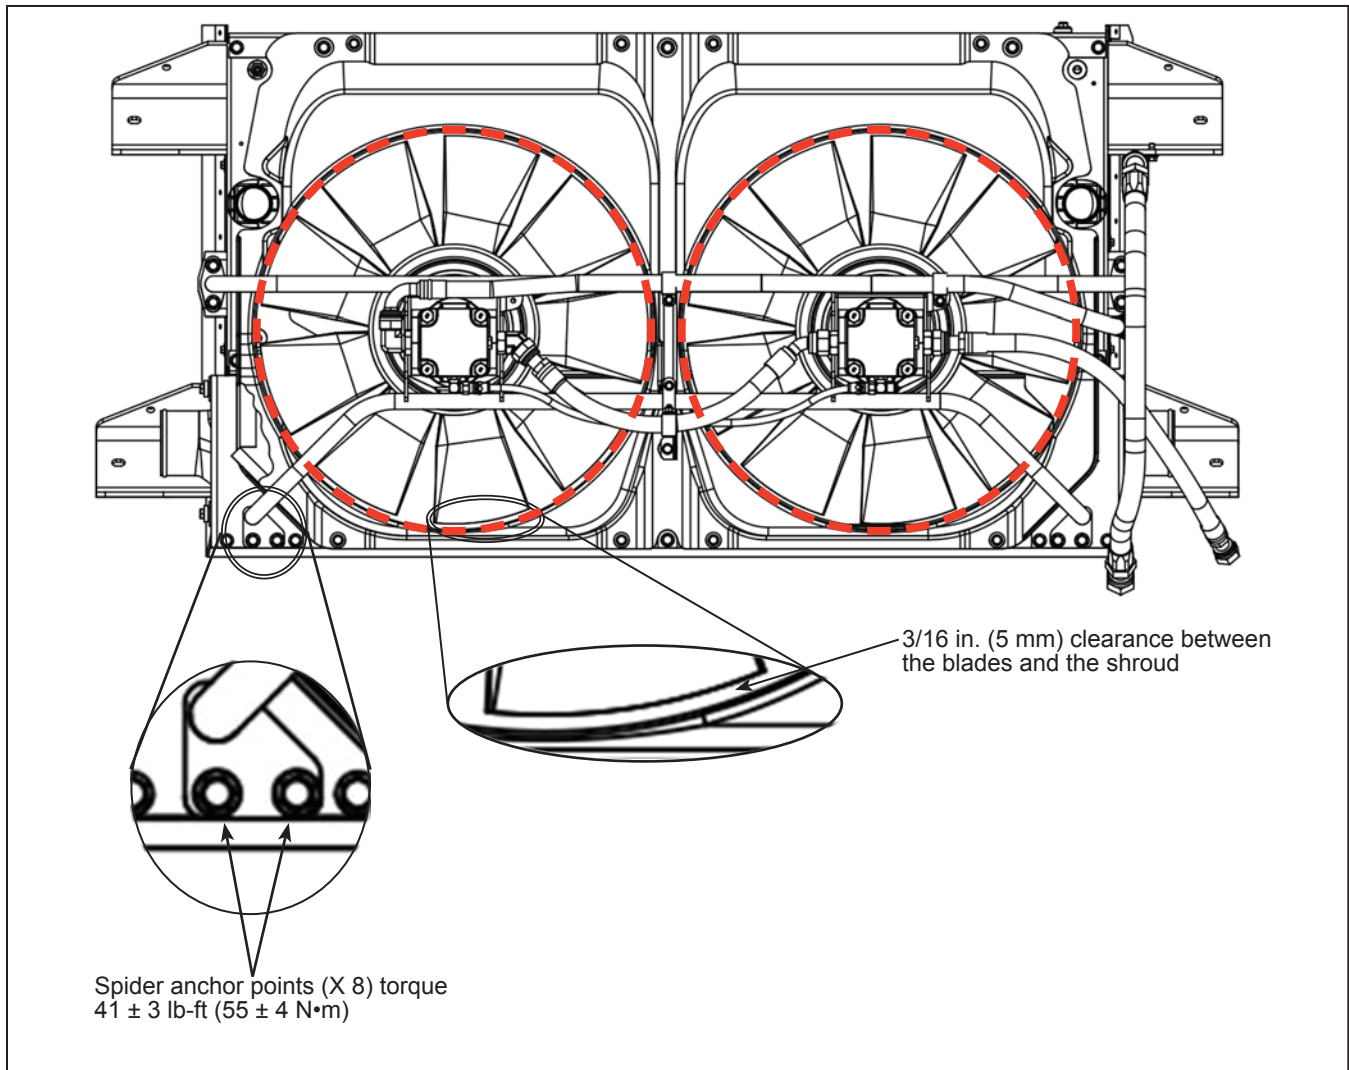

Figure 11 - Torque of the Spider and Spacing Between the Shroud and the Blades
- 1.36. Install the spider and the shroud on the radiator. Adjust the spacing between the internal contour of the shroud and the fan blades in such a way to obtain 3/16 in. (5 mm) clearance. Tighten the shroud bolts once the spacing is adjusted and torque the spider anchor bolts. See Figure 11.